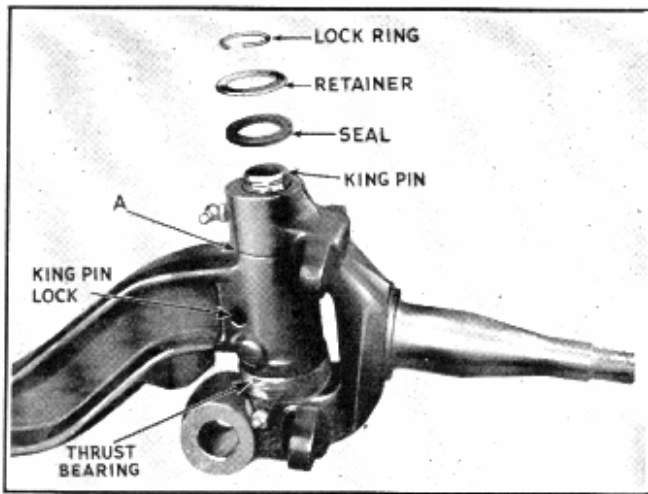

Fig. 47—Steering Knuckle and King Pin
felt from the top of the king pin as shown in Fig. 47.
8. Drive out the king pin lock pin, Fig. 47, which is located in the end of the "I" beam just below the center of the king pin. This pin is tapered and must be driven out from the rear to the front.
3. Hold the weight of the steering knuckle up off the top of the axle "I" beam and with a feeler gauge check the clearance between the top of the "I" beam and the steering knuckle yoke as shown at "A" Fig. 47. The clearance at this point should not exceed .006". If the clearance is greater than .006" install steel shims which are available in .005" and .015" thickness.
7. Replace the oil seal felt, retainer and lock ring on the top of the king pin, Fig. 47.